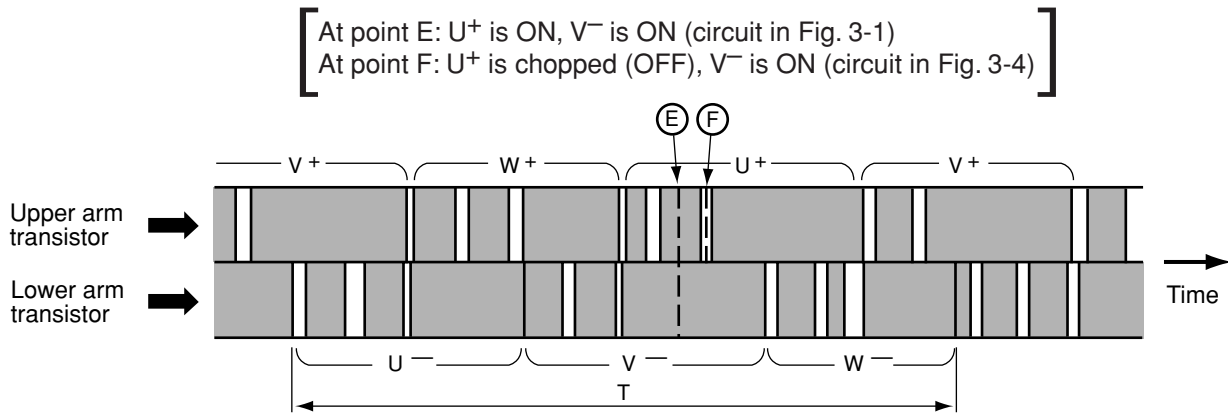

Fig. 3-2 Switching order of power module
- DC 260-360V is input to power module and power module switches power supply current according to rotation position of magnet rotor. The switching order is as shown in Fig. 3-2.
- Time T in Fig. 3-2 shows the switching period, and relation with rotation speed (N) of the compressor is shown by formula below;